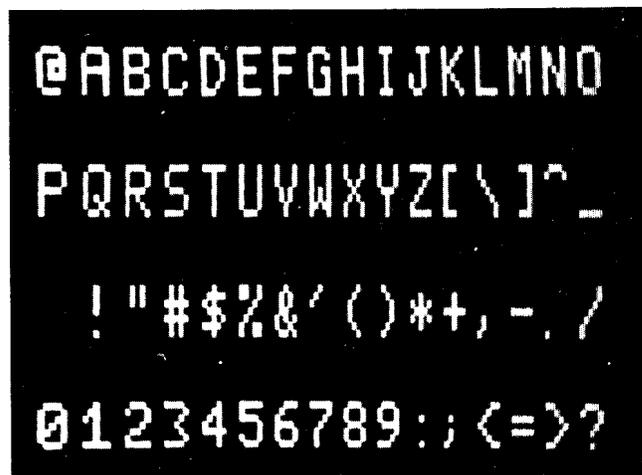

Figure 4, Display Repertoire
- 2.05** Figure 4 shows the complete repertoire of ASCII print characters which can be displayed.